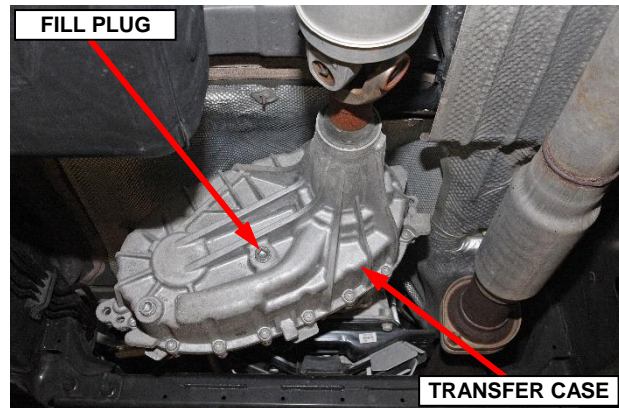

Figure 27 – Transfer Case Fill Plug
22. Remove the transfer case fill plug. Transfer case should be filled to the bottom edge of the fill plug opening (Figure 27).
23. If necessary, fill the transfer case to the bottom edge of the fill plug opening with T-Case BorgWarner lubricant, MOPAR part number 68049954AC (Figure 27).
24. Install the transfer case fill plug and tighten to 19 N·m (15 ft. lbs.) (Figure 27).